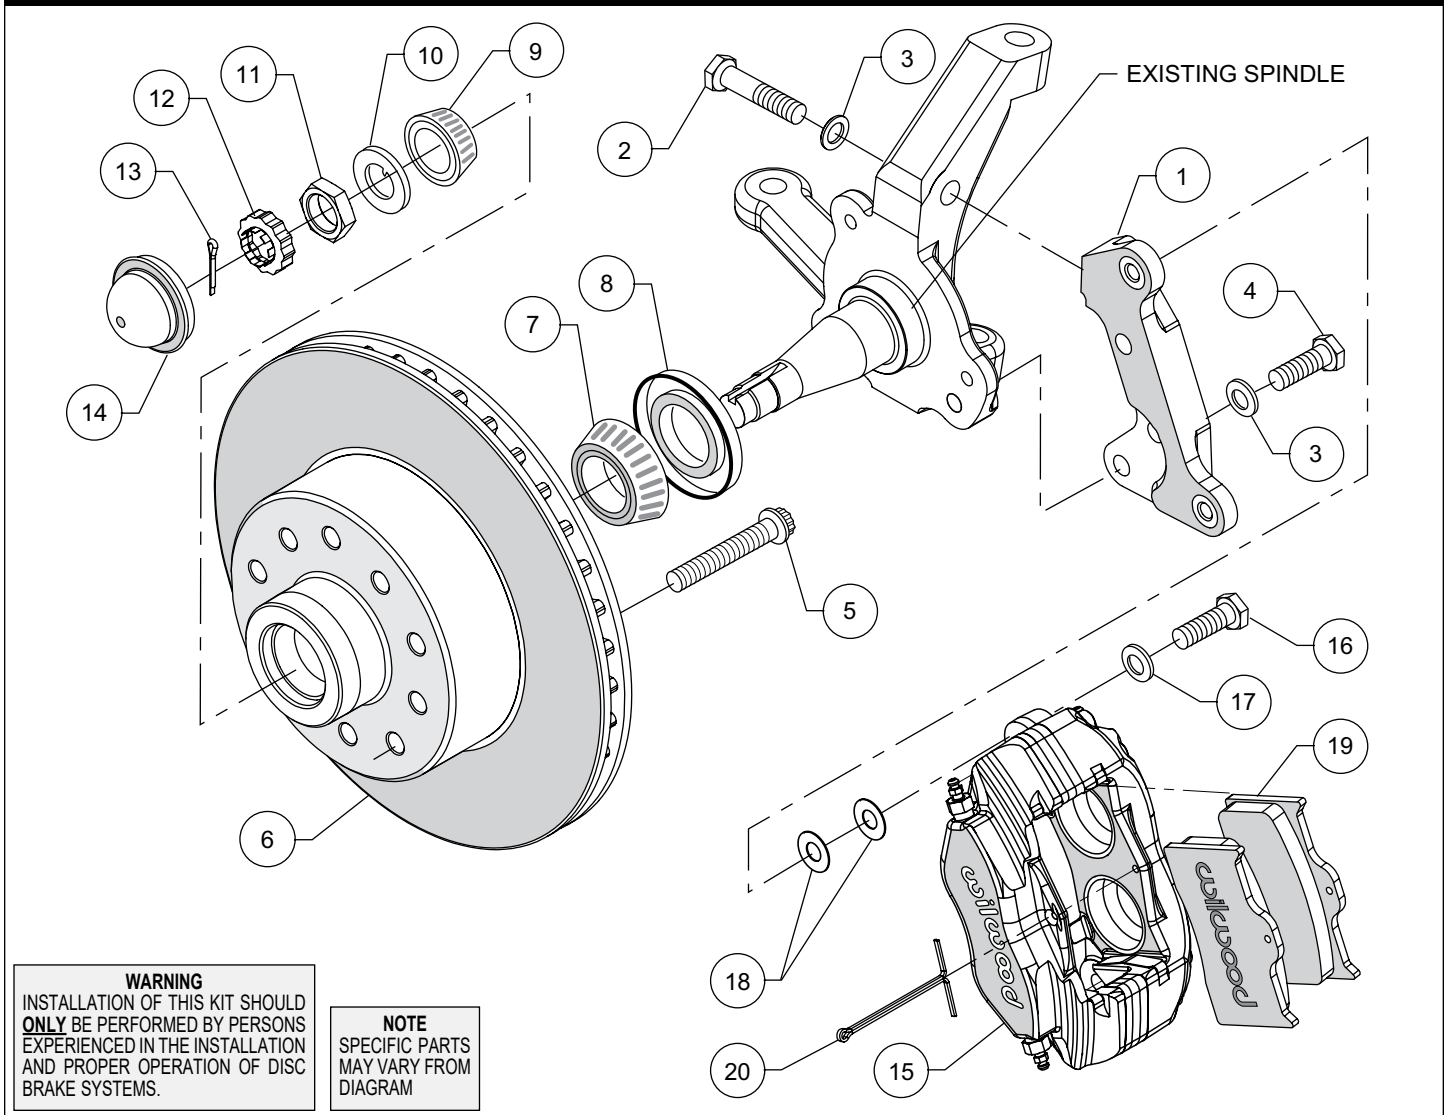
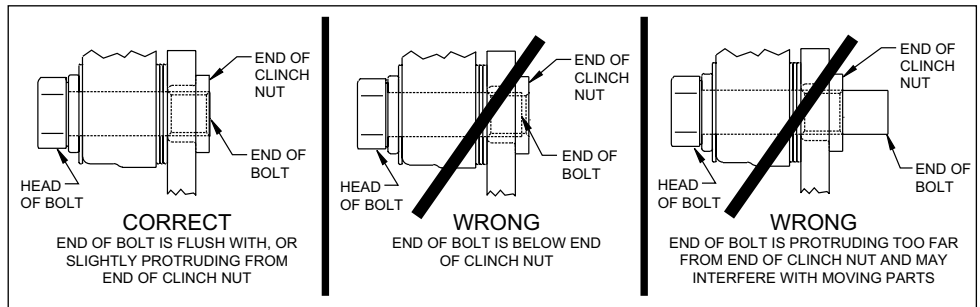

Figure 1. Typical Installation Configuration
Figure 3. Clinch Nut Engagement Diagram
NOTE: Numbers in parenthesis refer to the parts list and Figure 1 on the preceding pages.
CAUTION: All mounting bolts must fully engage clinch nuts. Be sure to check that all bolts are either flush or protruding through flanged side of clinch nut after shimming, Figure 3.
•Orient the caliper mount bracket (1) as shown in Figure 1 and Photo 1, and install using bolts (2/4) and washers (3). Ensure that the flanged heads of the clinch nuts in the bracket are facing outboard, Photo 1. Temporarily tighten the mounting bolts.
•Install wheel studs (5) into the hub (6), Photo 2. Apply red *Loctite*® 271 to the threads and torque to 77 ft-lb. **NOTE:** There are two five lug patterns in the hub (5 x 4.50 and 5 x 4.75). Ensure the correct hub stud pattern is being used to fit the wheel application.
•Pack the large inner bearing cone (7) with high temperature disc brake bearing grease (available from your local auto parts store) and install into the backside of the hub (6), Photo 3.
•Install the grease seal (8) by pressing into the backside of the hub (6), flush with the end of the hub.
•Pack the small outer bearing cone (9) with high temperature disc brake bearing grease and install into the front side of the hub (6). Slide the hub/rotor onto the spindle, Photo 4. Secure using spindle washer (10) and spindle nut (11). Adjust bearings per OEM specifications. Install spindle nut retainer (12) and cotter pin (13), Photo 5.
•Press the dust cap (14) into the hub (6), Photo 6. **NOTE:** Do not hammer center of cap. Install using outer flange only.
•**NOTE:** Please reference the caution statement at the beginning of the assembly instructions. Mount the caliper (15) onto the caliper mounting bracket (1) using bolts (16) and washers (17), as shown in Figure 1. Initially place two .035" thick shims (18) on each bolt between the caliper and the bracket, Photo 7. Temporarily tighten the mounting bolts and view the rotor (6) through the top opening of the caliper. The rotor should be centered in the caliper, Photo 8. If not, adjust by adding or subtracting shims between the bracket and the caliper. Always use the same amount of shims on each of the two mounting bolts. **NOTE:** The end of each bolt must be flush with or slightly protruding from the head of the clinch nut, as shown in Figure 3. If necessary place spare shims between washer (17) and caliper mounting ear to achieve the proper clinch nut engagement. Once the caliper alignment and clinch nut engagement are correct, remove the bolts one at a time, apply red *Loctite*® 271 to bolt threads, and torque to 40 ft-lb.